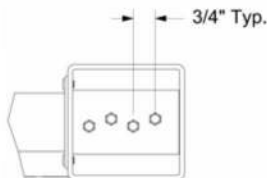

Fig. 5 Securing Rail in Gate Pocket
- g.) **Square Gate and Secure rails in Gate Pocket:** Square the gate using the carpenters square and secure the top and bottom rails in the gate pockets using four 1" self-tapping screws provided. The pattern should look similar to Fig. 5.
- Square Gate and Secure rails in Gate Pocket:** Square the gate using the carpenter's square and secure the top and bottom rails in the gate pockets using four 1" self-tapping screws provided. The pattern should look similar to Fig. 5 on Page 2.
- d.) **Square Gate and Secure rails in Gate Pocket:** Square the gate using the carpenter's square and secure the top and bottom rails in the gate pockets using four 1" self-tapping screws provided. The pattern should look similar to Fig. 5.